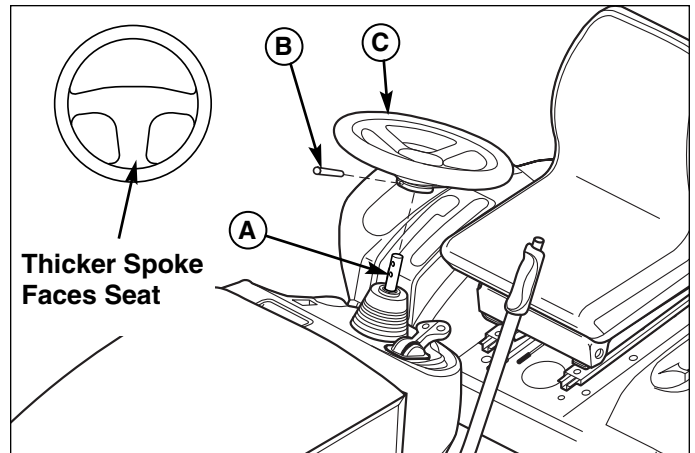

Figure 41. Steering Wheel Components
1. Use a suitable punch to remove the roll pin at the base of the steering wheel (B, Figure 41).
2. Pull down on the rubber boot to expose the two holes in the steering shaft (A).